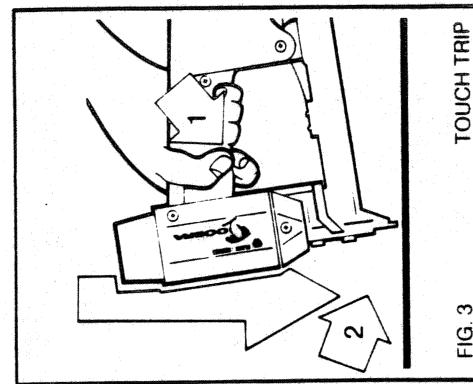

FIG. 3
2. **YOKE OPERATION (TOUCH TRIP)** (See Fig. 3) The Touch Trip method can be used when more speed and less accuracy and drive power are required.